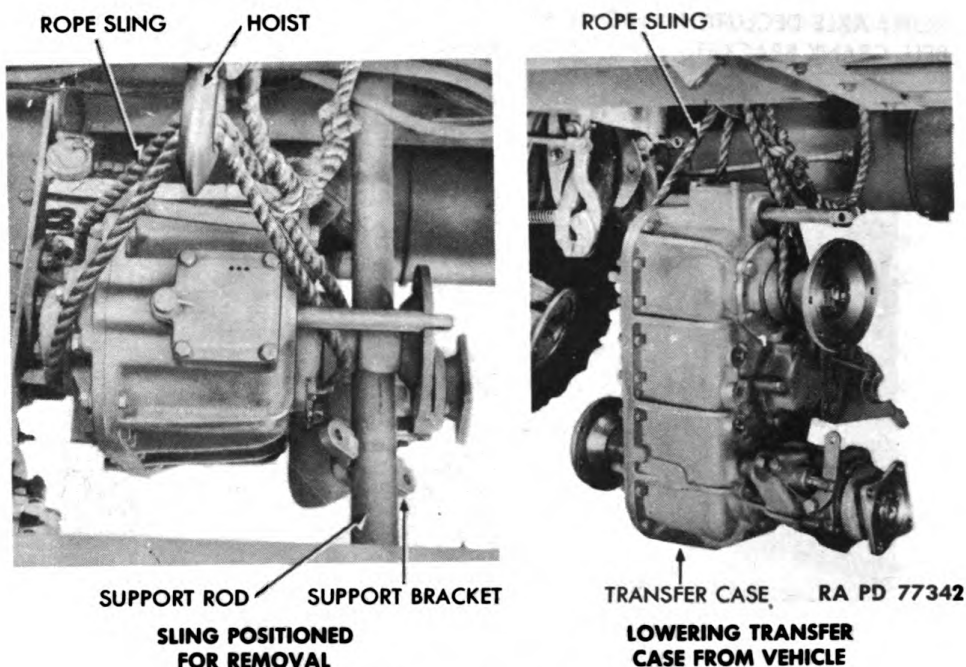

Figure 63 - Transfer Case Removal
a. **Description** (fig. 63). Engine torque is transmitted to front and rear driving axles through a transfer case located in center of frame back of the transmission. Power connection is made by three propeller shafts. Gear ratio range selection is controlled by a lever within the cab (fig. 3). A second lever provides for engaging or declutching the front driving axle (fig. 3). The front axle drive may or may not be engaged, as desired, when the vehicle is operating in high range; but it is automatically engaged when vehicle is operating in low range.
99. TRANSFER CASE REMOVAL (fig. 63).
- k. Remove Supports and Lower Transfer Case to Floor. Attach rope sling as illustrated (fig. 63). Remove two cap screws and lock washers securing transfer case bracket cap to support bracket. Remove four bolts, nuts, and cotter pins securing front support bracket
a. **Attach Transfer Case to Support Brackets** (fig. 25). Attach rope sling as illustrated (fig. 63). Install eight screws, lock washers, and nuts securing support rod to frame. Position case to supporting rod. Secure front support bracket caps with two cap screws and lock washers.